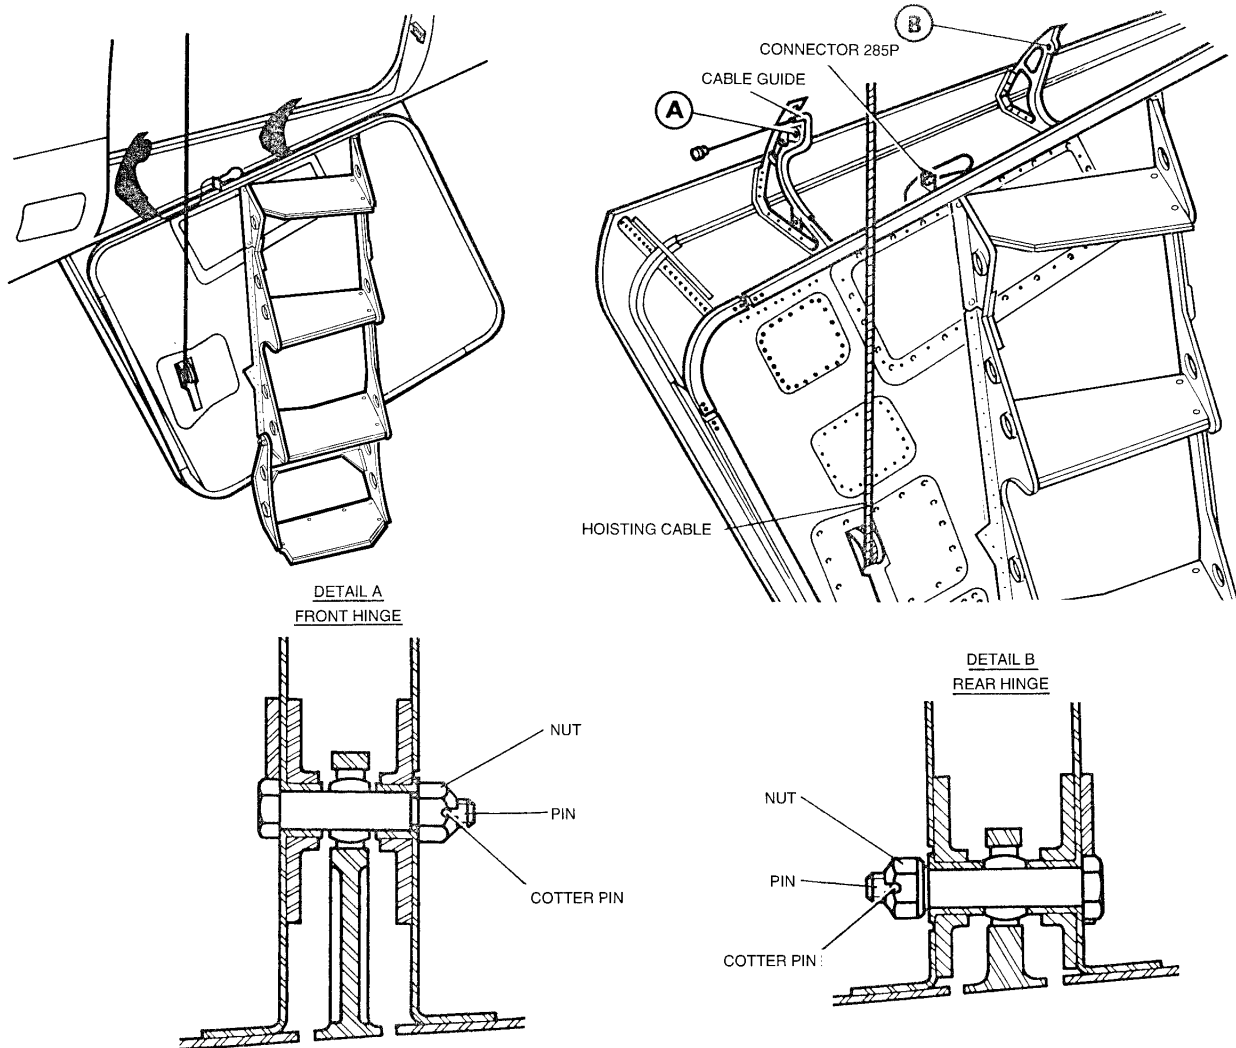
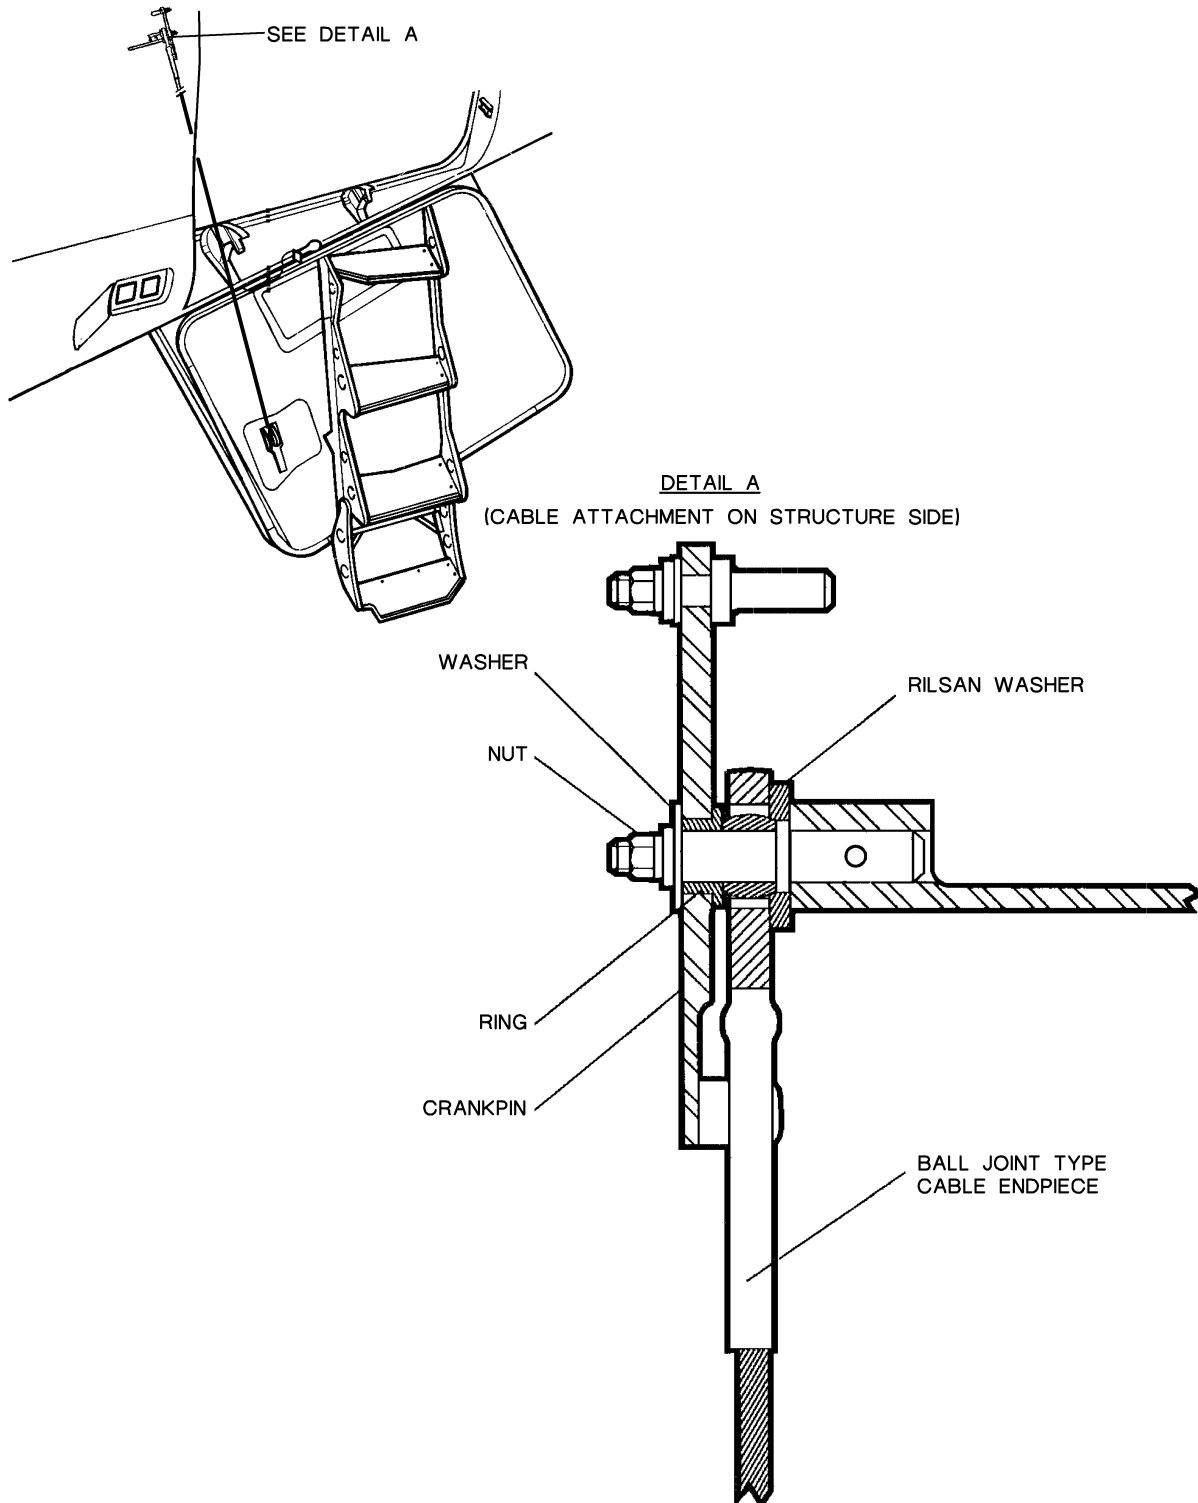

Figure 1: Removal/Installation of Baggage Compartment Door
Figure 2: Attachment of Reducing Gear Motor Cable on Structure Side
Refer to **fig. 1** and **fig. 2**
- C. A second operator must support the door while the lifting cable is being disconnected from the forward end of the frame: recover the washer, the nut and the crankpin assembly (**fig. 2**).
- C. Secure the lifting cable to the forward end of the frame: engage the cable endpiece on the upper attachment pin then install the washer, the attachment nut and the crankpin assembly (**fig. 2**).
Refer to **fig. 1**
Refer to **fig. 2**
Refer to **fig. 1**, **fig. 3**, **fig. 4** and **fig. 5**